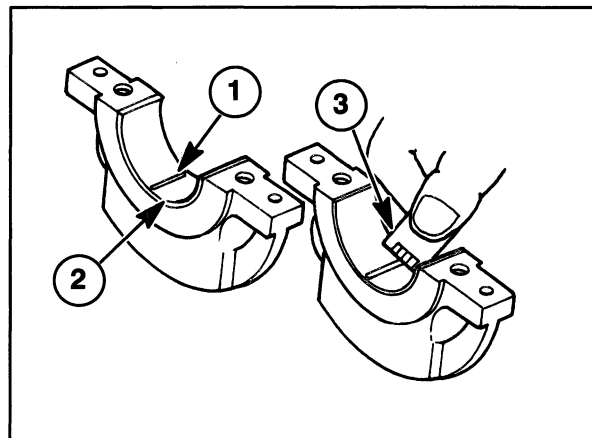

Figure 1-63
3. Position a piece of plastigauge, 1, across the full width of the bearing liner, 2, at approximately 1/4 inch off center, Figure 1-63.